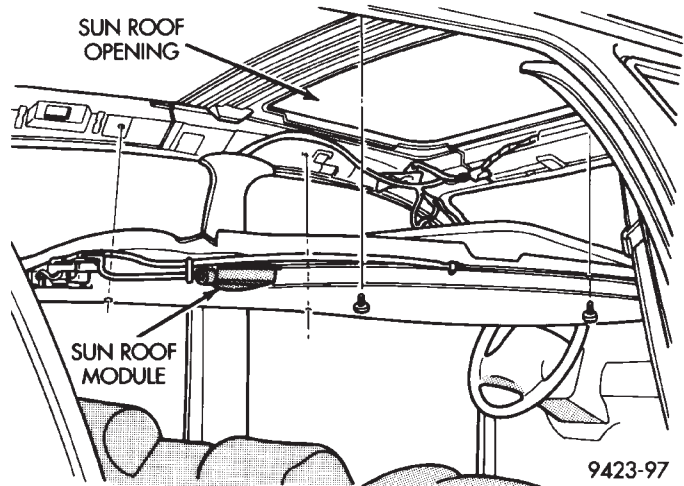

Fig. 1 Sunroof Module
- (1) Disconnect battery negative cable.
- (2) Remove left A-pillar molding.
- (3) Disengage wire connector from body harness at A-pillar.
- (4) Remove headlining.
- (5) Disengage hose clamps and separate drain tubes from sunroof module.
- (6) Remove bolts holding sunroof module mounting brackets to side rails. Do not loosen or remove brackets from module.
- (7) With the aid of a helper, remove bolts holding sunroof module to roof panel.
- (8) Separate sunroof module from roof panel (Fig. 1).
- (9) Extract sunroof module through rear door opening.